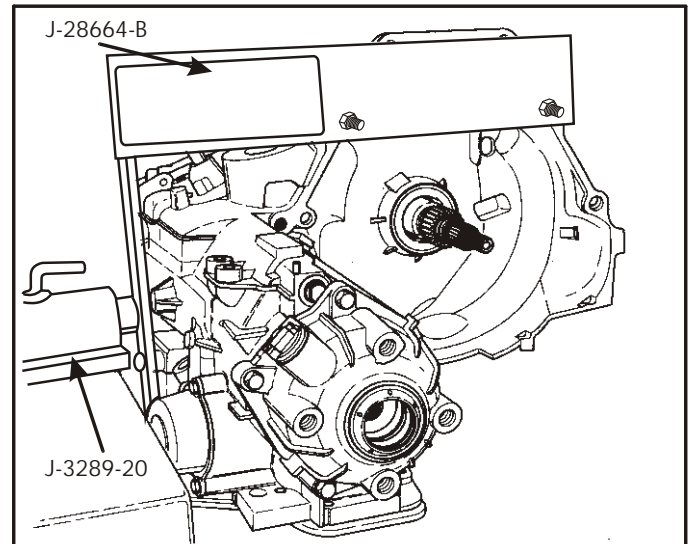

Figure 214
42. Remove the transaxle from the bench fixture and remove mounting fixture (See Figure 214).